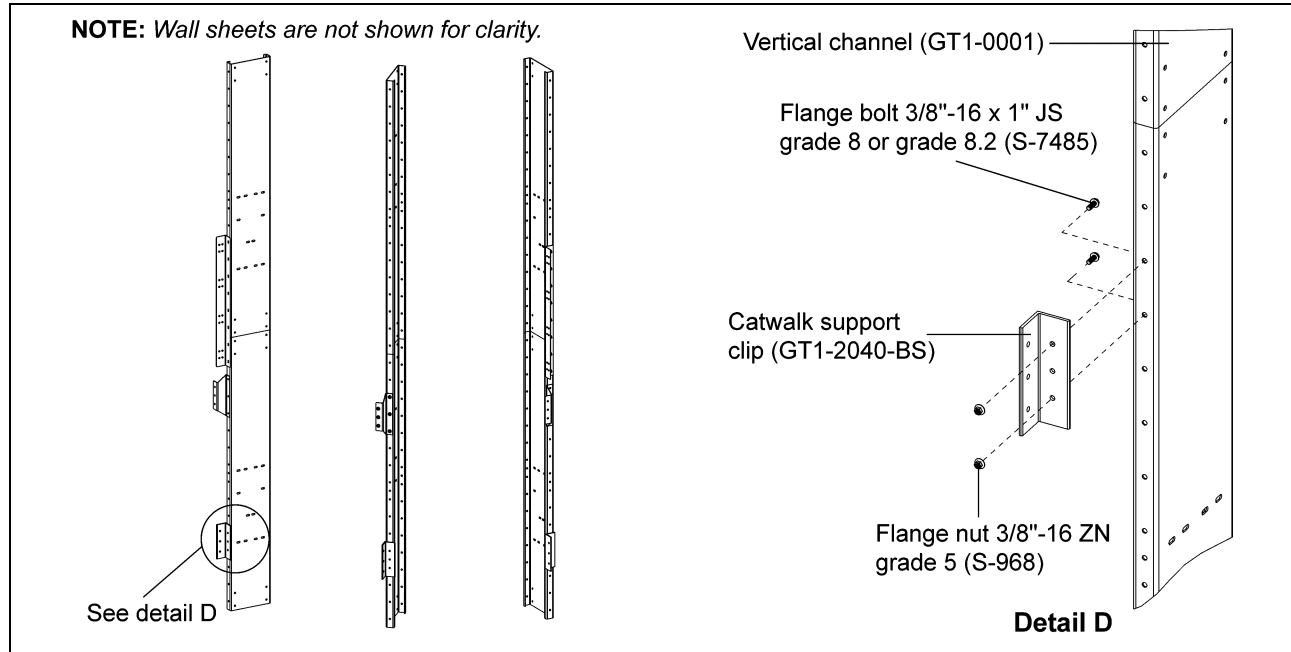
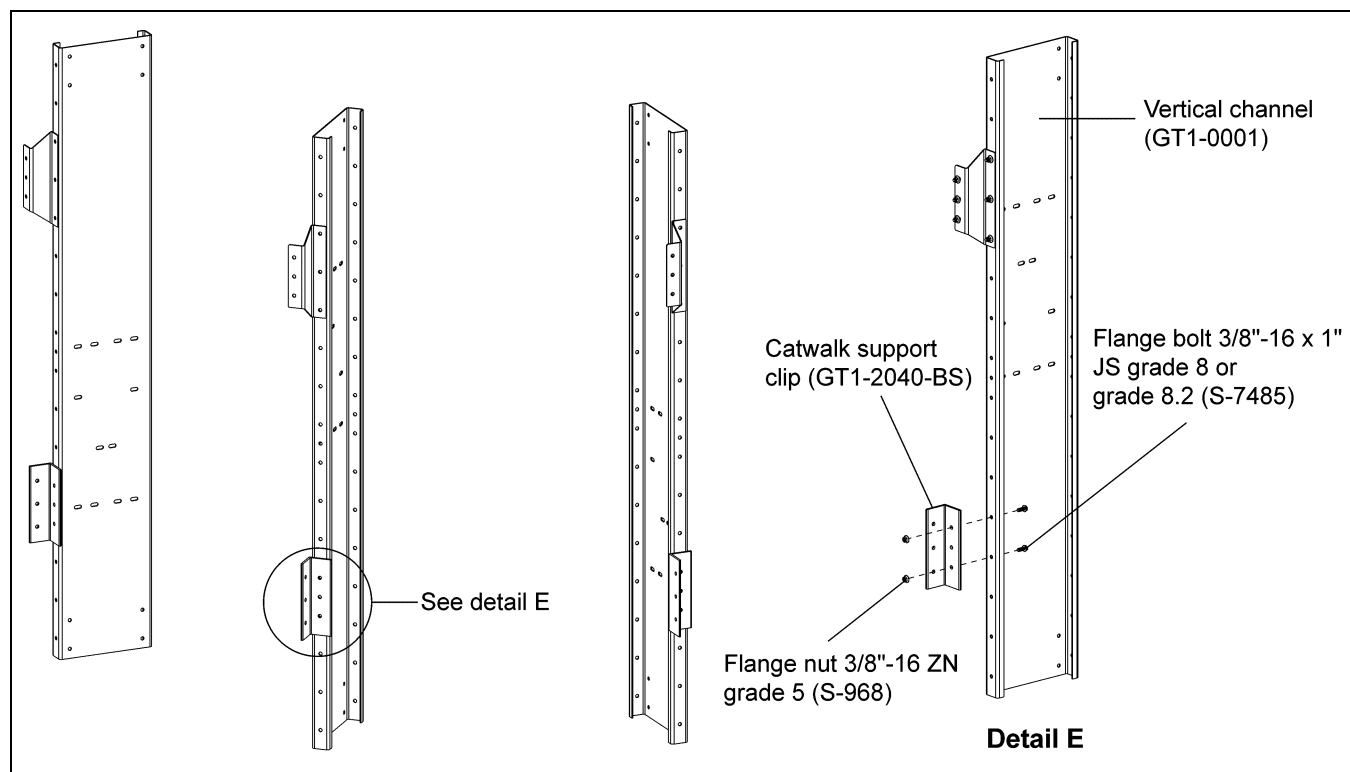

Figure 6G Offset Catwalk Support Clip Installation
Figure 6I Roof Hatch Catwalk Support Clip Installation
1. Install catwalk support clips (GT1-2040-BS) to vertical channels (GT1-0001). Support clip can be installed on each vertical channel as the wall sheets are installed using 3/8"-16 x 1" JS grade 8 or grade 8.2 bolts (S-7485) and 3/8"-16 ZN grade 5 nuts (S-968). *(See Figure 6G below and Figure 6I on Page 50.)*